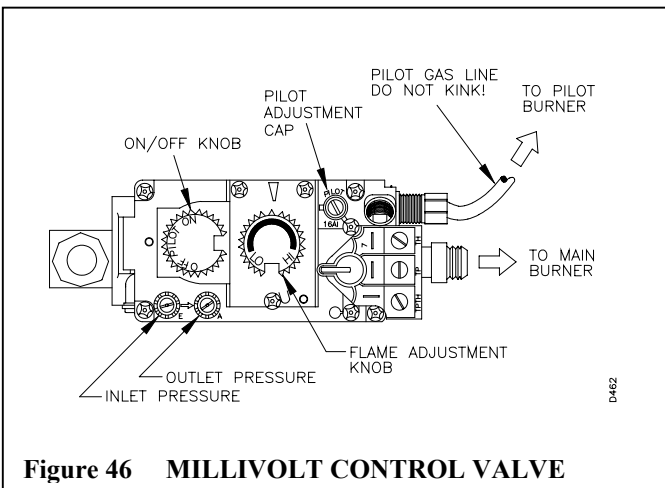

Figure 46 MILLIVOLT CONTROL VALVE
The millivolt system with manual HI/LO applies only to the (V)DVF36TPNA / TSTA and (V)DVF36TPNPA / TSTPA models. The gas control valve is accessible from the lower control compartment. Two pressure taps are provided on the gas control valve for a pressure gas connection (see figure 46).